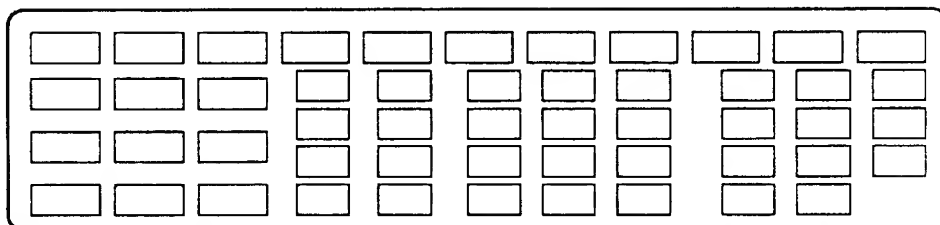

Figure 9-3 Display appearance in display unit keyboard test
- 2) Press **1** to select "Main Unit Keyboard. The display now looks like Figure 9-3.